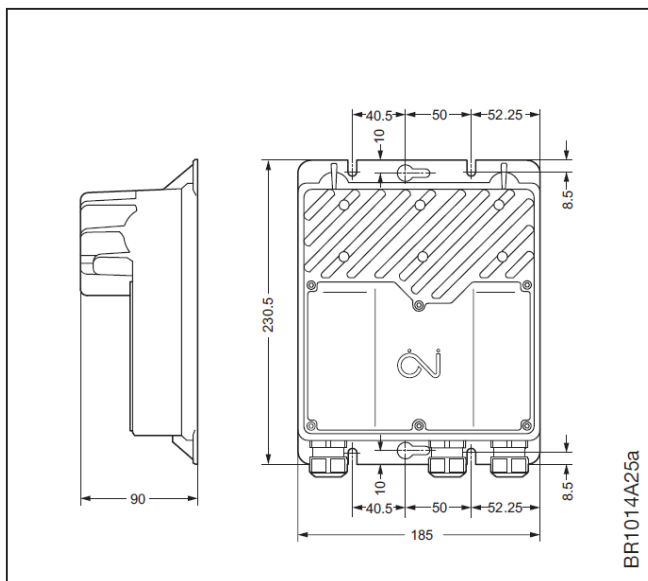

Fig. 2-1: H1 enclosure dimensions
The NI-DV range currently contains in total 11 power sizes (see table 2-2). The power sizes are divided into a total of four enclosure sizes (H1, H3, H4, H5). Dimensional sketches of the housings are shown in fig. 2-1 to 2-4. All enclosures are made of die-cast aluminium.
NI-DV is equipped with a silver-coloured rating plate. See the example in fig. 2-1 and explanation in table 2-3.
- For dimensioned drawings please see table 2-2 and figures 2-1 to 2-4.